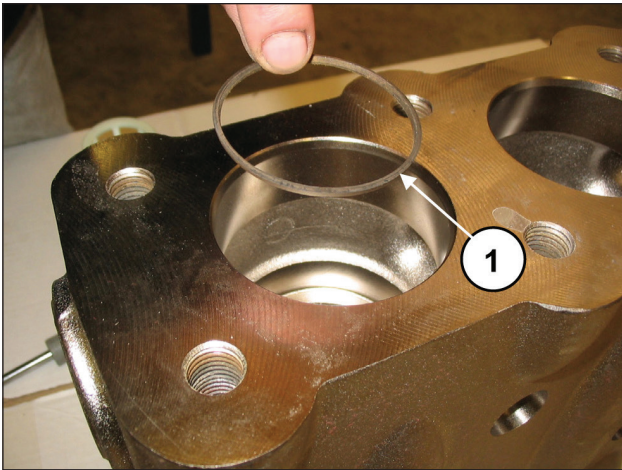

Fig. 102
Insert the back-up ring, exploded view pos. 4 (pos. ①, Fig. 102).